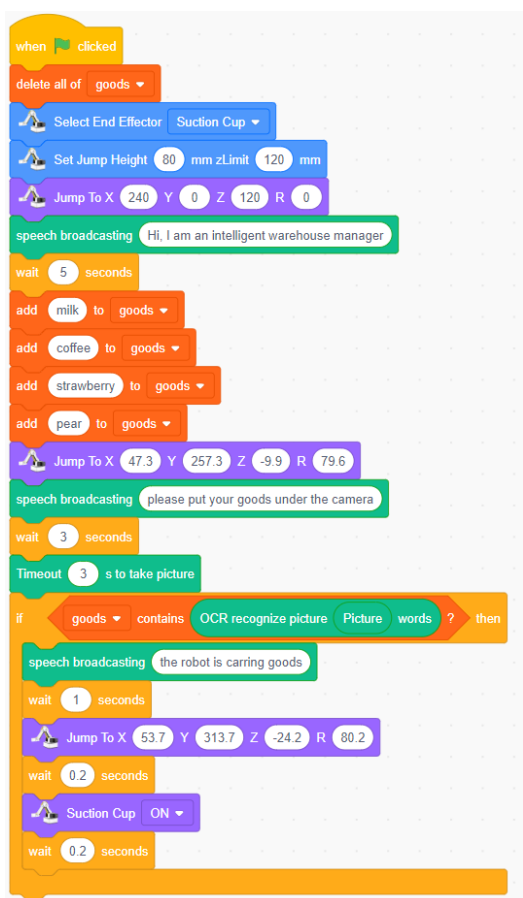

Figure 1.12 Identify and grab goods cards
Step 7: If the goods list contains the text in the OCR recognition picture, voice play "Robot is moving the goods" first, and then grab the goods box, as shown in Figure 1.12.